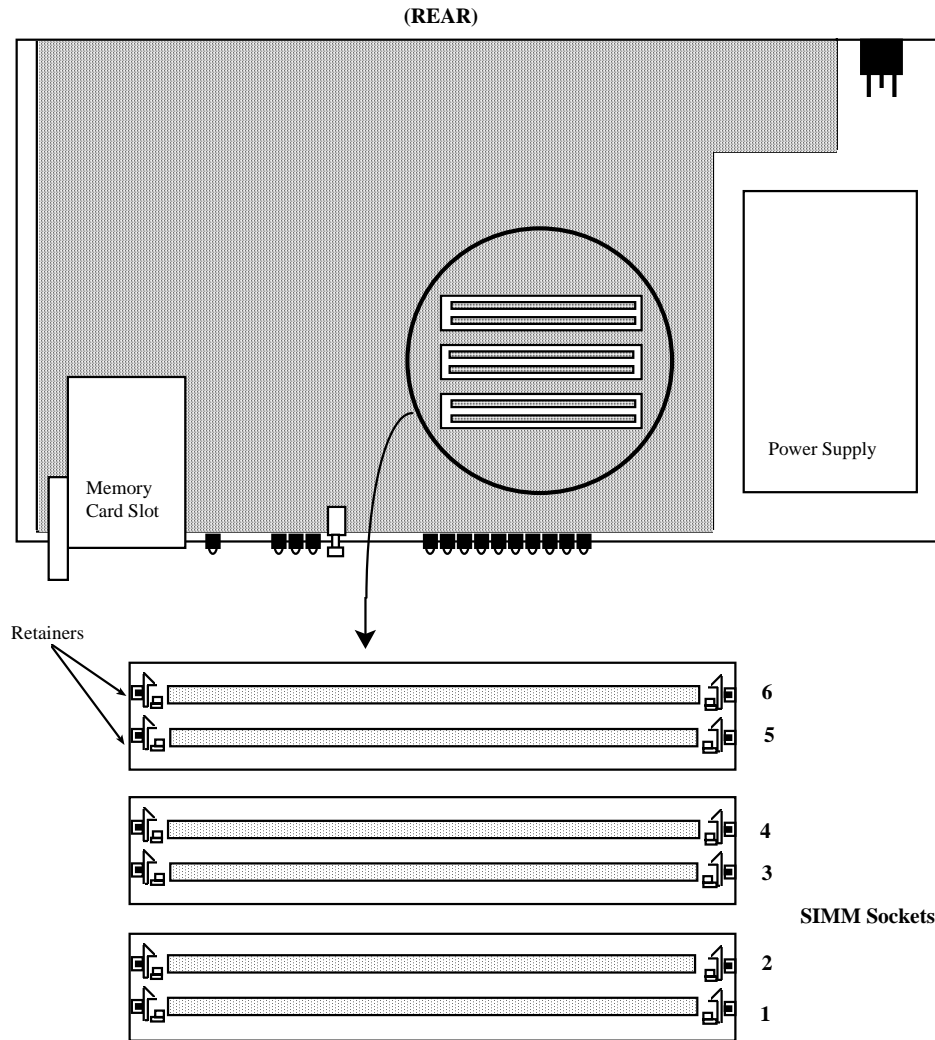

Figure 38 - Location of SIMM Sockets
5. Locate the SIMM sockets inside the MAXserver (see Figure 38).